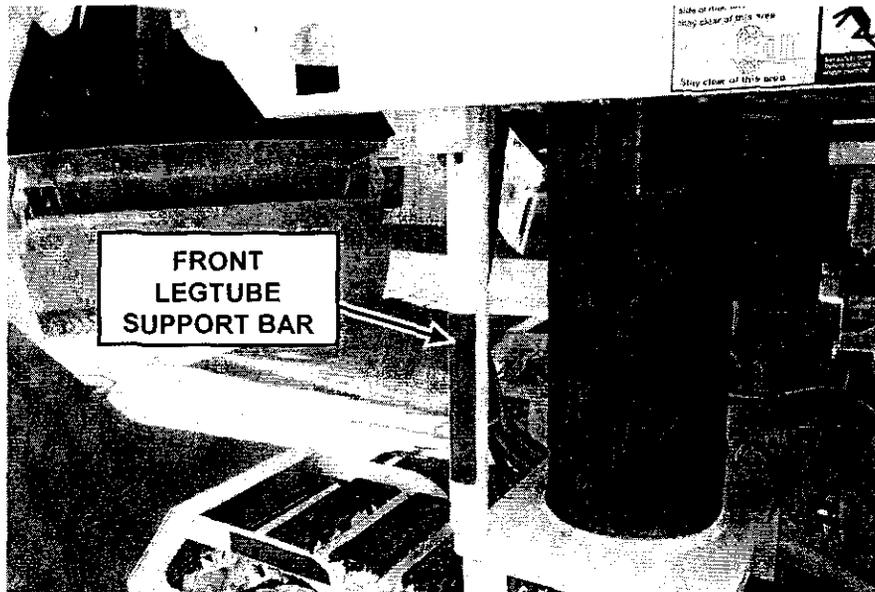

FIGURE 9
6. Always set the legtube support bars in the support positions when working under the machine (figures 9 & 10).